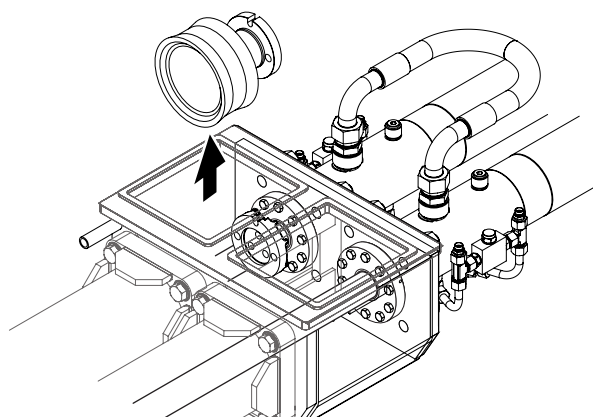

Figure 22
11. Remove the nut and bolt, and the ram will be free to come out of the waterbox (Figure 22).